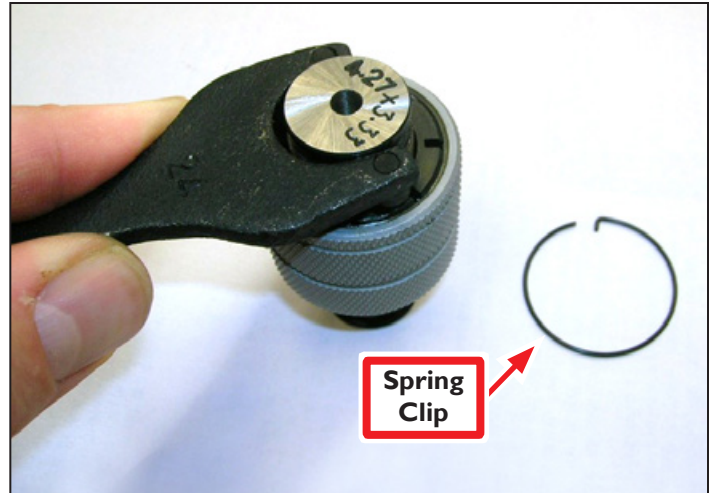

Figure 6
1. To tighten the slip adjustment, carefully remove the Spring Clip from the collet and use pin spanner wrench (included) to tighten or loosen the adjustable nut (see **Figure 6**).